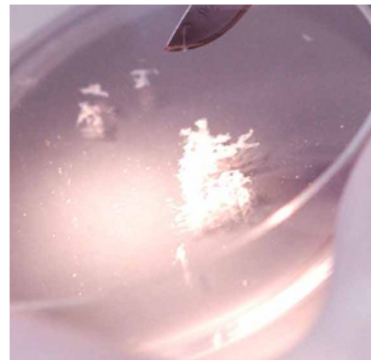

Figure 1a: CV by naked eye Figure 1b: CV by naked eye - detail
7.2.1 By naked eye (Figure 1a and 1b):